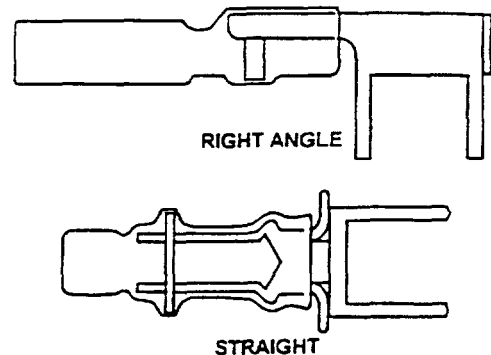

Figure 14 . Matched Impedance Termination
34. Matched impedance terminations (Figure 14) provide a fully shielded, low voltage standing wave ratio (VSWR), matched impedance termination of 50 and 75 ohm coaxial cables to PC boards. These terminations consist of a tin plated copper body, heat-shrinkable sleeve, and a fluxed solder preform. When installed and soldered to the PC board, all conducting and insulating components are securely fixed to maintain consistent impedance.